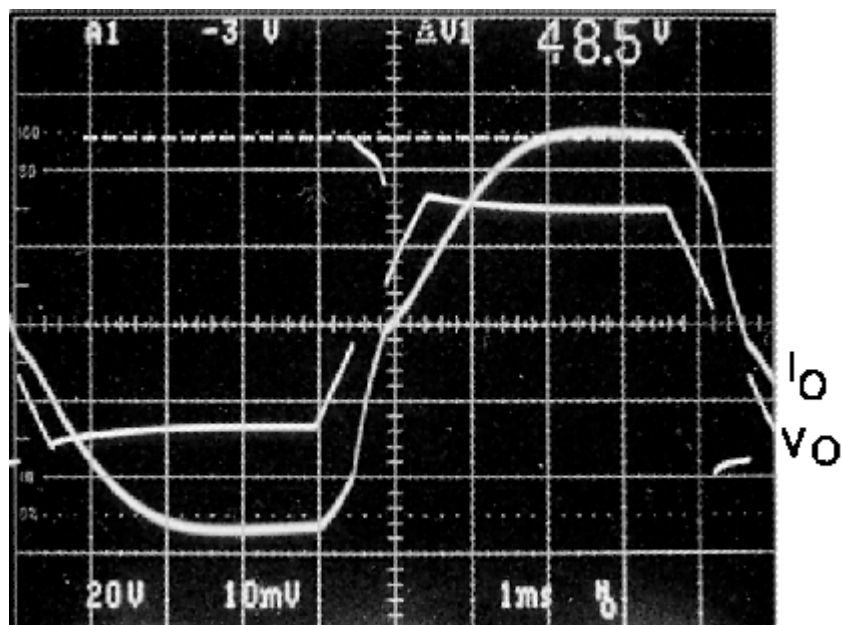
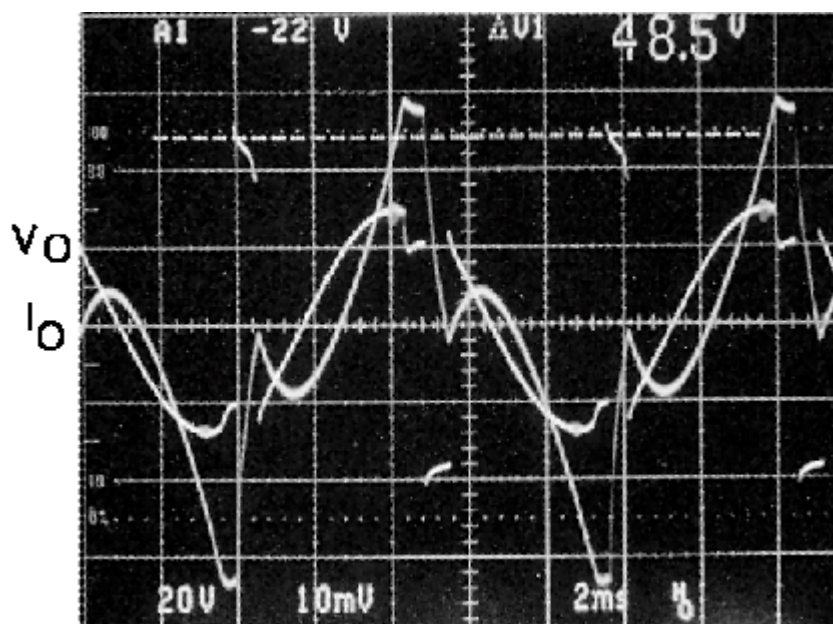
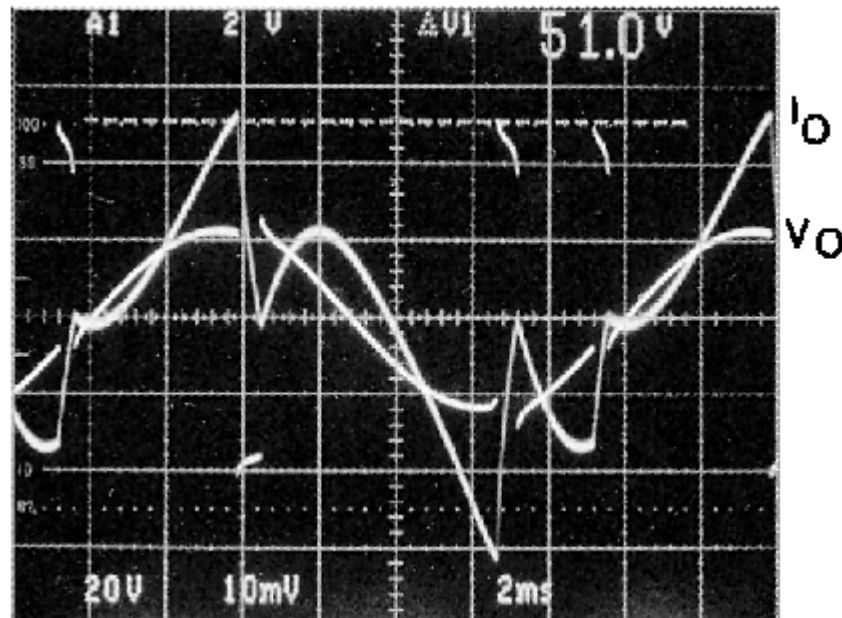
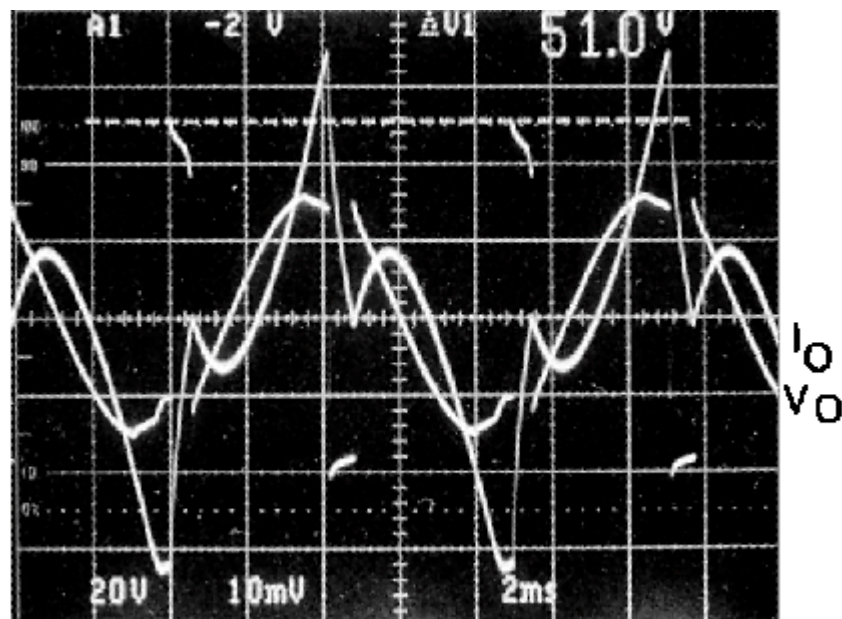

Figure 14. Overvoltage Exceeding Clamping Level
Figure 15. Reaching the SOA Power Limit,
Figure 16. Multiple SOA Power Limits
Figure 17. Output Saturation Causing Extreme Overvoltage
Figure 12 and Figure 13 model the output stage for each overvoltage condition exemplifying how the voltage waveforms are clamped to their respective values for high frequency waveforms. As shown in the Self Peak Instantaneous Temperature Limiting (SPiKe) section, Figure 2, Figure 3, and Figure 4, the safe operating area for lower frequency waveforms is much smaller than for higher frequency waveforms. Therefore, the power limits of low frequency waveforms may be reached much more easily than for high frequency waveforms. It is due to this fact that more extreme and more frequent overvoltages may occur at lower frequencies, as shown in Figure 14, Figure 15, Figure 16, and Figure 17. The peak output voltage spikes may increase beyond the described clamping values due to extreme power conditions, however, the waveforms will decrease to the clamping values with the discharge of the output inductor current, as shown in Figure 14.
Figure 14, Figure 15, Figure 16, and Figure 17 are examples of the LM3876 reaching its power limit, experiencing large flyback voltages from an inductive load, for various input signals and loads.
The test conditions for Figure 14, Figure 15, Figure 16, and Figure 17 are as follows:
- $Z_L = 7.5\text{ mH} + 4\Omega$  for Figure 14
- $Z_L = 7.5\text{ mH} + 2\Omega$  for Figure 15, Figure 16, and Figure 17
- $f = 100\text{ Hz}$  for Figure 14, Figure 15, and Figure 17
- $f = 70\text{ Hz}$  for Figure 16
In Figure 14, the 4.5Vpk input signal applied to the amplifier with a closed-loop gain of 20, produces the severely clipped 34V output voltage waveform, as shown. The sharp 48.5V overvoltage spike that occurs at the crossover point is due to the amplifier output stage reaching the SOA (Safe Operating Area) limit. For this waveform, the collector-emitter voltage is quite large, while the output current is also quite large (4A). Referring to Figure 2, Figure 3, and Figure 4, it is easily understood that the SOA power limit has been reached.
In Figure 14, when the current reaches close to zero, the voltage at the output tends to move towards the output voltage that it would have been if the power limit had not been reached. This is typical for all overvoltage occurrences. It should be noted that when the overvoltage fault occurs, the device is no longer functioning in the closed-loop mode.
In Figure 15, one waveform is actually a sinewave with SPiKe protection enabled, as in Figure 5, Figure 6, and Figure 7 with the same overvoltage spikes as in Figure 14 and the other waveform is the output current. In the middle of the response, the current is rising toward 6A when SPiKe is enabled, causing a "bite" to be taken out of the sinewave. The device is just trying to limit the output current at this point, as explained in the SPiKe Protection section. The overvoltage flyback spike then occurs while the output current discharges to zero. However, this time when the current reaches zero, the current and voltage must make up for what it had lost and try to return to its position on the amplified input waveform. The voltage jumps up to its value, but the current must slowly and continuously charge up to its place on the current waveform, then continue downward as the lower output stage starts sinking current. It must be remembered that the current waveform would have been a sinewave if the SOA power limit hadn't been reached.
Multiple SOA power limits on the output waveform are the difference between Figure 15 and Figure 16. Figure 16 is intended to show that multiple SOA power limits can occur under extreme loading conditions. The amplifier is trying to drive a 70 Hz sinewave into a 7.5 mH inductor in series with a 2Ω resistor. As the signal frequency decreases, with a low resistance load, the number of SOA power limits will increase. The frequency of reaching power limits will depend upon the size of the reactance as the load.
Figure 17 is intended to exemplify the large current overdrive that can occur when the output waveform is driven hard into the rails. Notice that the current is over 6Apk for each voltage swing.